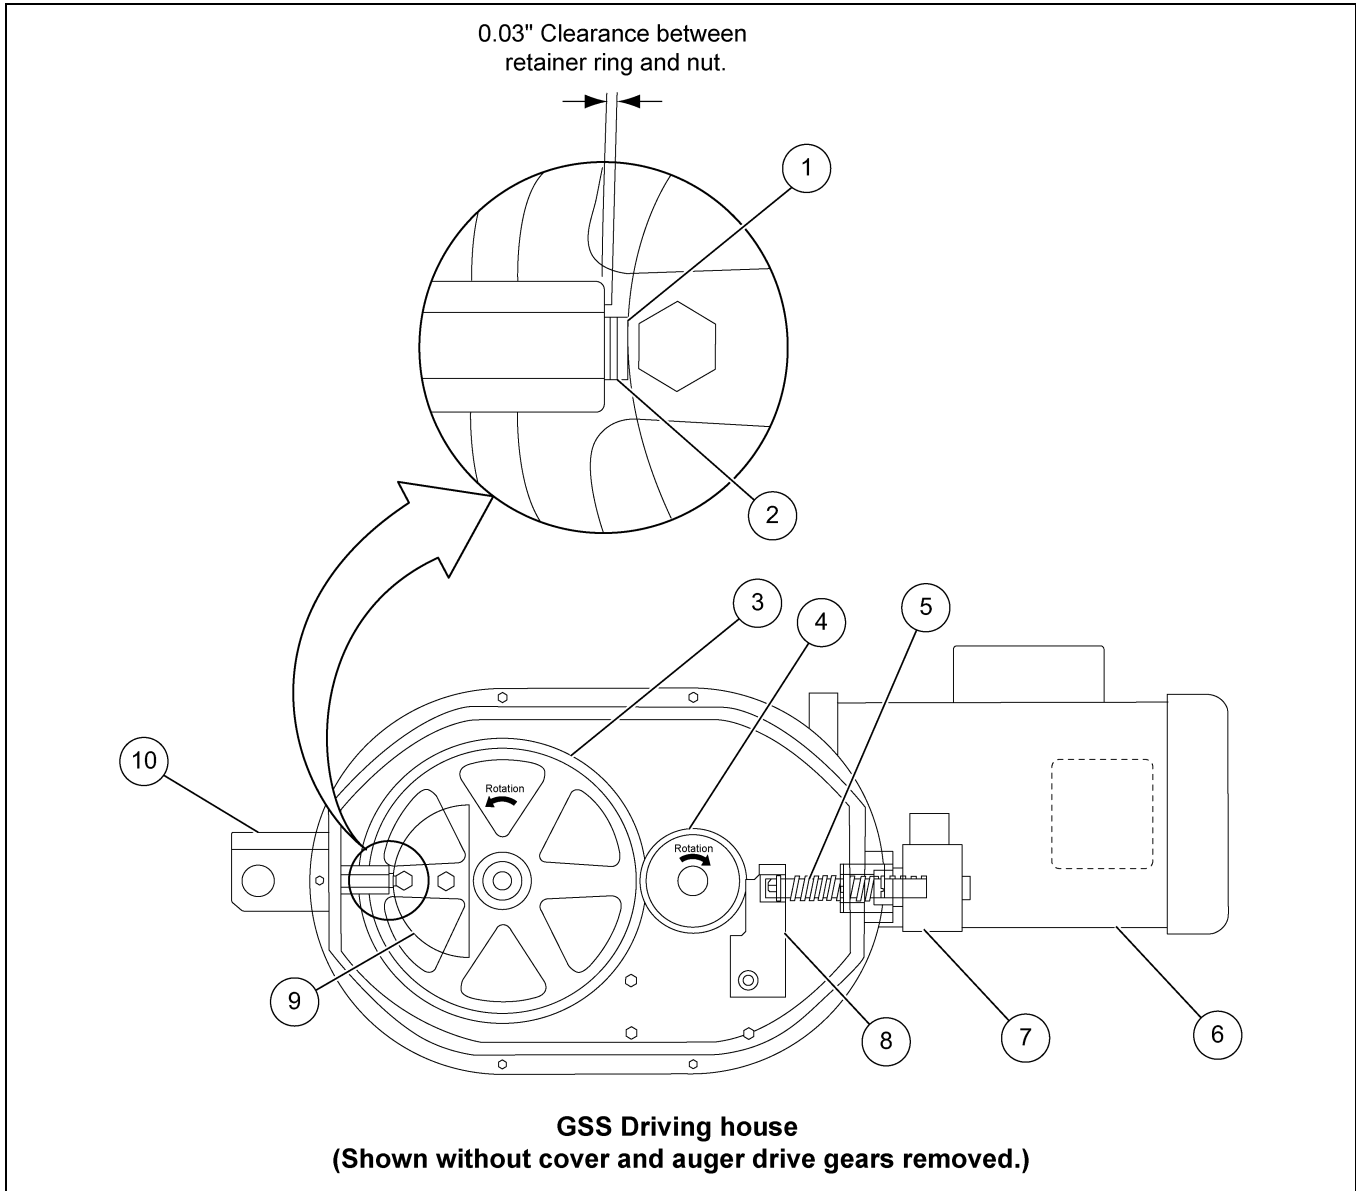

Figure 7A *Limit Switch Cam Adjustment*
The limit switch cam actuates the limit switch by pushing the switch plunger inward. The correct cam position is shown in Figure 7A on Page 26. Follow the instructions below.
4. Slide the limit switch cam to the position as shown in Figure 7A on Page 26. Hold the 0.03" clearance dimension and re-tighten the two 1/4"-20 UNC hex head screws.
6. Make sure the key is in place on reducer shaft and re-install the clutch so that the clutch and limit switch cam are positioned as shown in Figure 7A on Page 26.
7. Turn the motor fan shaft by hand in the direction labeled on the motor and in Figure 3A on Page 12. The clutch will rotate until the stop cog engages on the clutch actuator and stops further rotation of the auger tube. The limit switch cam should be the position as shown in Figure 7A on Page 26.